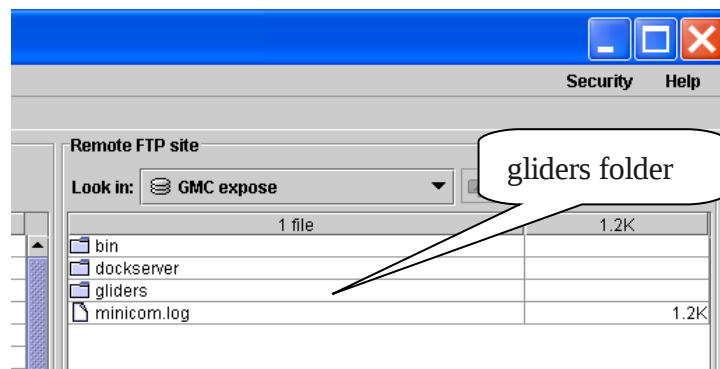

Figure 11-6. Dock Server file browser in GMC FTP application.
2. Double click the “gliders” folder in GMC FTP window’s right-hand file browser. Figure 11-6 shows the “gliders” folder.